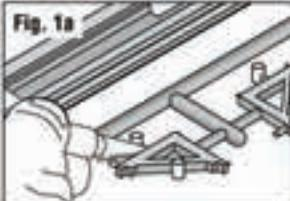

Fig. 1b
- Remove Details from sprues using a hobby knife (or flush cutting shears). Sand off any mold flash or parting lines. (**Fig. 1b**)
**TIP!** Leave Flowers ⑫ and Fern Leaves ⑬ attached to sprue while priming and painting (Step 2). Remove when painting is complete, then touch up cut-lines.